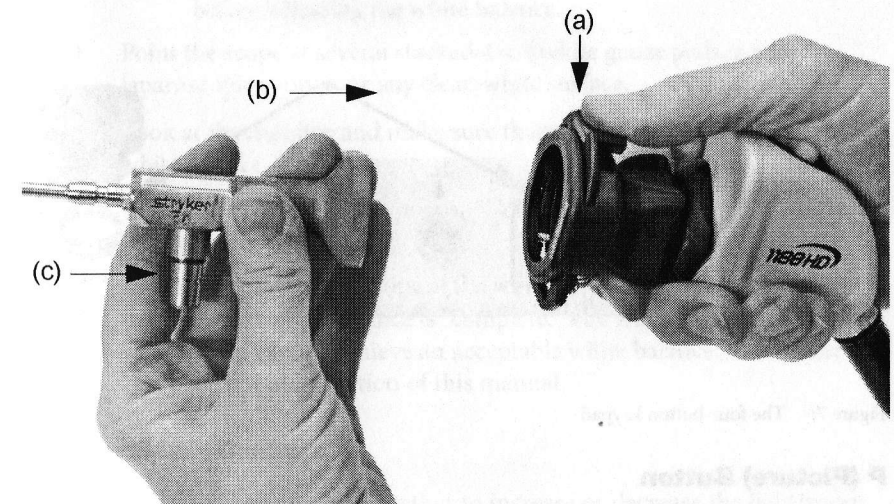

Figure 6: Attaching an endoscope to the camera head via the coupler
- Push down on the endobody clamp (a) and insert the scope into the scope end of the coupler (b). (See Figure 6.)
3. Attach a light cable from the light source to the light post on the endoscope (c) as seen in Figure 6.